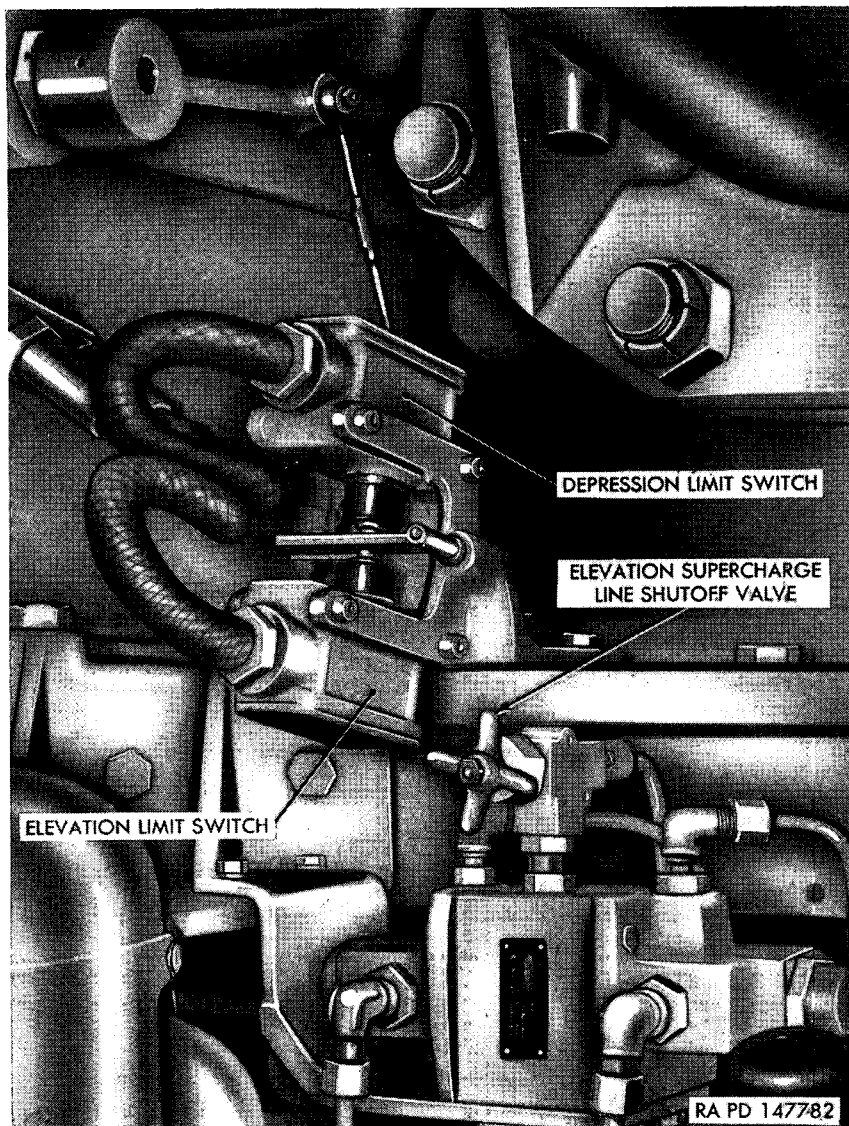

Figure 301. Elevation and Depression Limit Switches.
f. LIMIT SWITCHES. A limit switch unit, containing an elevation limit switch and a depression limit switch, is located in the forward portion of the turret (fig. 301). If the 90-mm gun is elevated too high or depressed too low, the corresponding limit switch is opened, breaking the control circuit to the electric motor.
a. REMOVAL. The elevation limit switch and the depression limit switch (fig. 301) are removed in the same manner. To move either switch, turn off master relay switch (fig. 18). Disconnect cable connector at switch and remove cable. Remove two socket head screws and remove limit switch.
b. INSTALLATION. Position limit switch to mounting bracket (fig. 301) and secure with two socket head screws, two lock washers, and four spacing washers. Connect limit switch cable.
c. TESTING AND ADJUSTMENT. Turn on master relay switch (fig. 18). Slowly and carefully depress or elevate the gun (par. 76), as required, to test the switch. If travel limit is not correct, adjust the adjusting screw on limit switch rod (fig. 301).